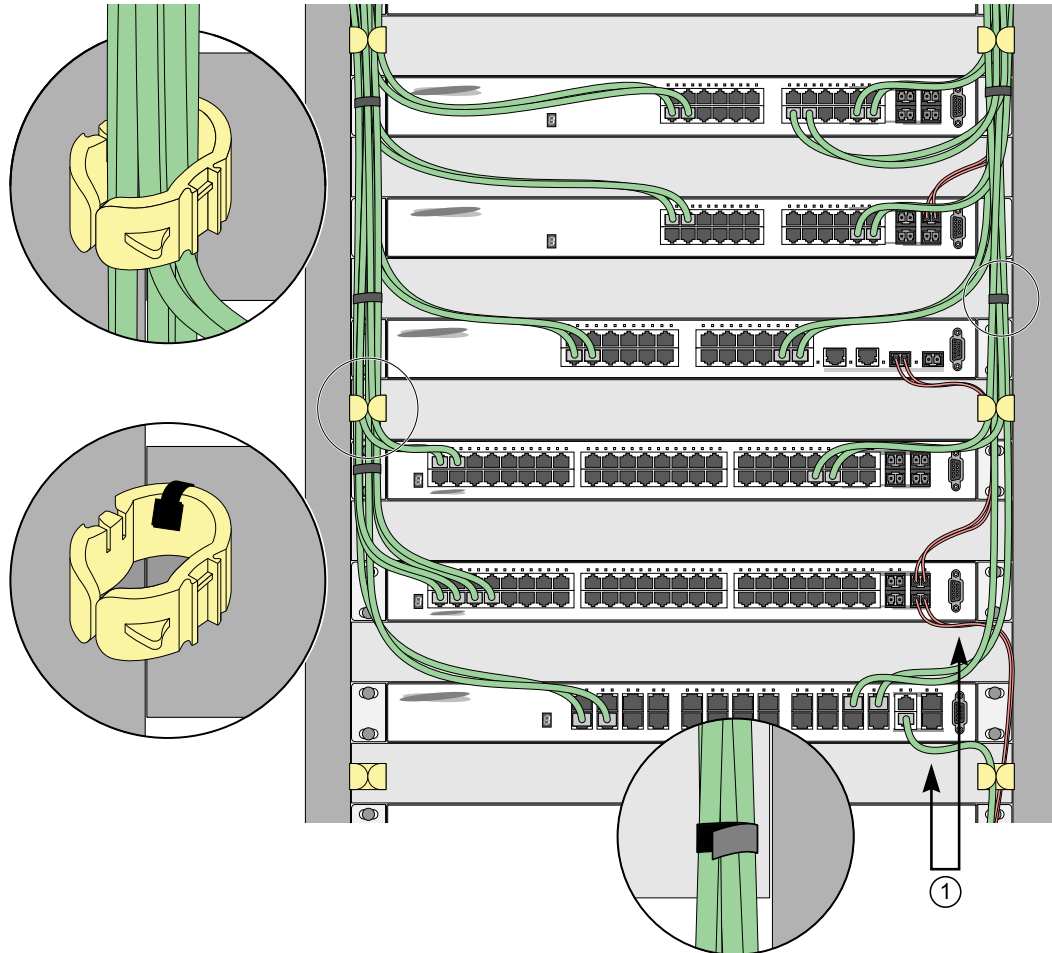

Figure 32: Properly Installed and Bundled Cable
- Provide enough slack, approximately 5 to 7.5 cm (2 to 3 in), to provide proper strain relief as shown in Figure 32 on page 50.
- When installing a patch panel using twisted pair wiring, untwist no more than 2.5 cm (1 in) of the cable to avoid radio frequency (RF) interference.